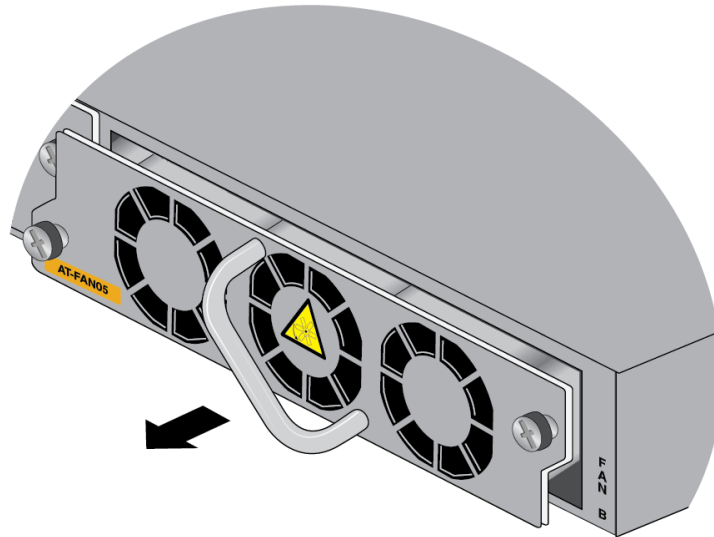

Figure 152. Disconnecting the FAN05 Module from the Switch
2. Carefully pull on the handle to disconnect the line card from the internal connector in the switch. Refer to Figure 152.